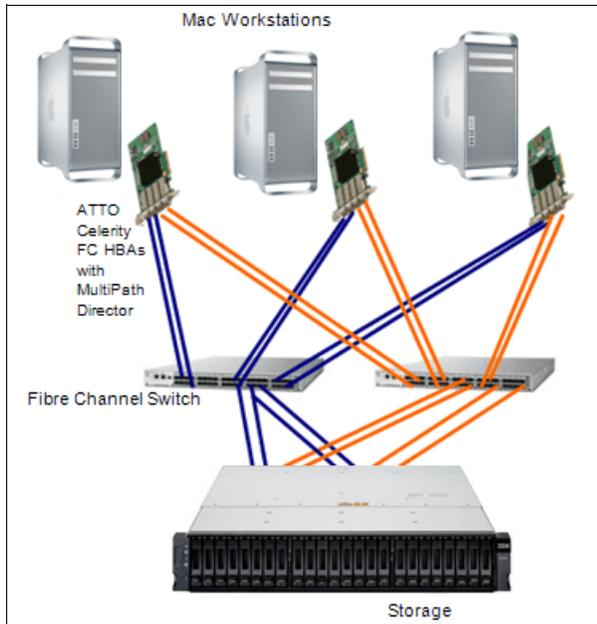

Figure 2-18 High Performance and redundant configuration for MacOS
- ▶ High performance and redundant path protection: This feature provides a high number of access paths as well as failover protection by using the four port HBA with two ports to each of the fabrics, allowing greater load balancing as well as failover protection. See Figure 2-18 for an example configuration.